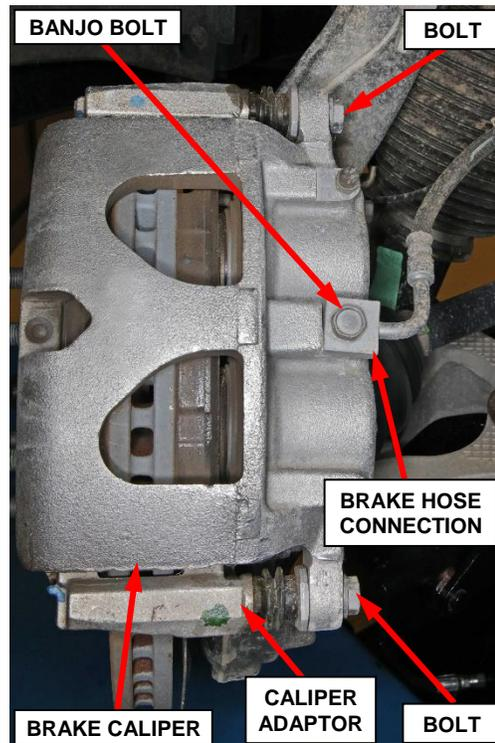

Figure 3 – Front Brake Caliper
3. Remove the banjo bolt and brake hose connection from the front brake caliper (Figure 3).
4. Remove the two front brake caliper bolts (Figure 3).
5. Remove the front brake caliper from the brake caliper adaptor and return the caliper for core credit (Figure 3).
7. Position the **NEW** front brake caliper on the brake caliper adaptor (Figure 3).
8. Install the two front brake caliper bolts and tighten to 75 N·m (55 Ft. Lbs.) (Figure 3).
9. Install the banjo bolt and brake hose connection with two **NEW** copper washers and tighten to 35 N·m (26 Ft. Lbs.) (Figures 3 and 4).